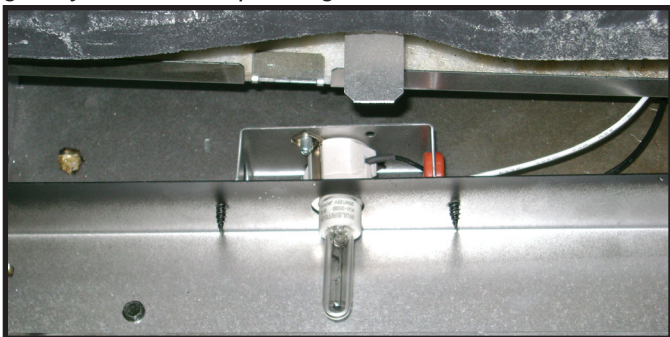

Figure 11.10 Ember Light Bulb Installed
2. Install two 20 watt halogen bulbs per side. See Figure 11.10.